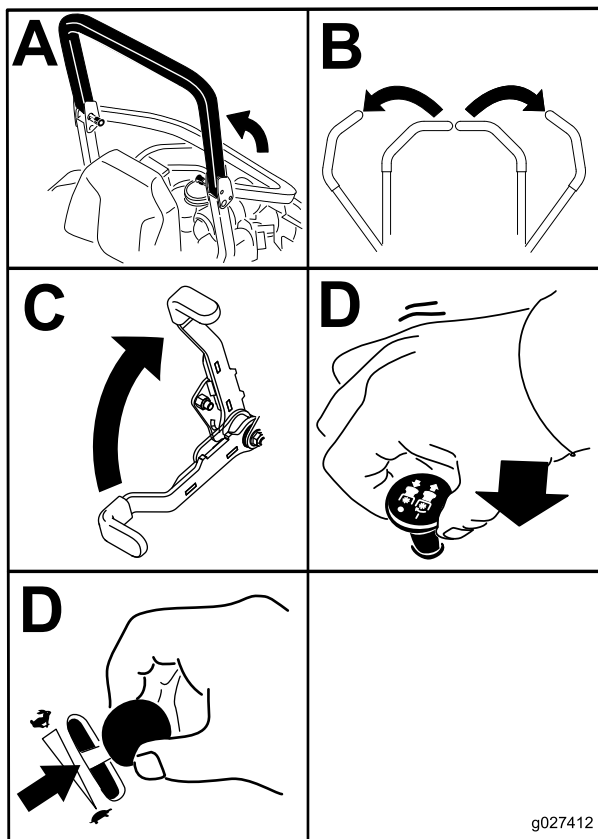

Figure 17
4. Move the blade-control switch (PTO) to the OFF position (Figure 17).